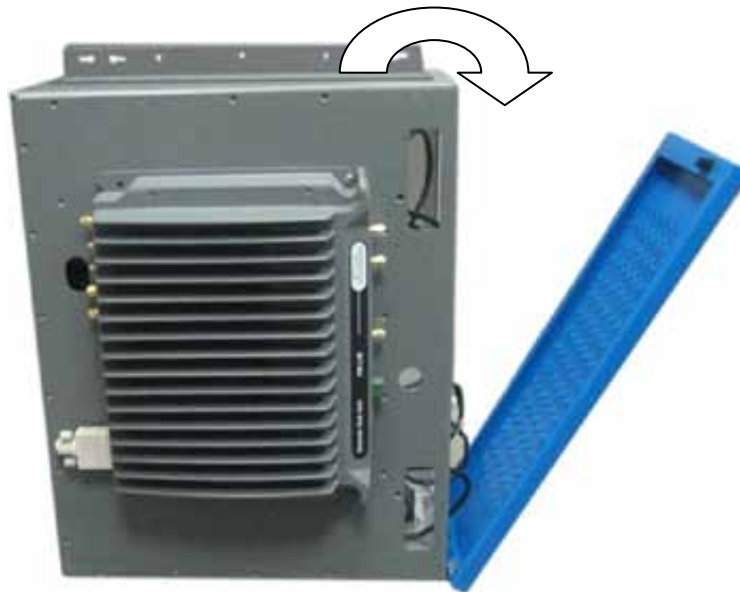

Figure 3-15. Front View of MA2000 QSX Mounted Vertically on Wall
- Location enables opening the enclosure door to the side. Refer to Figure 3-15.